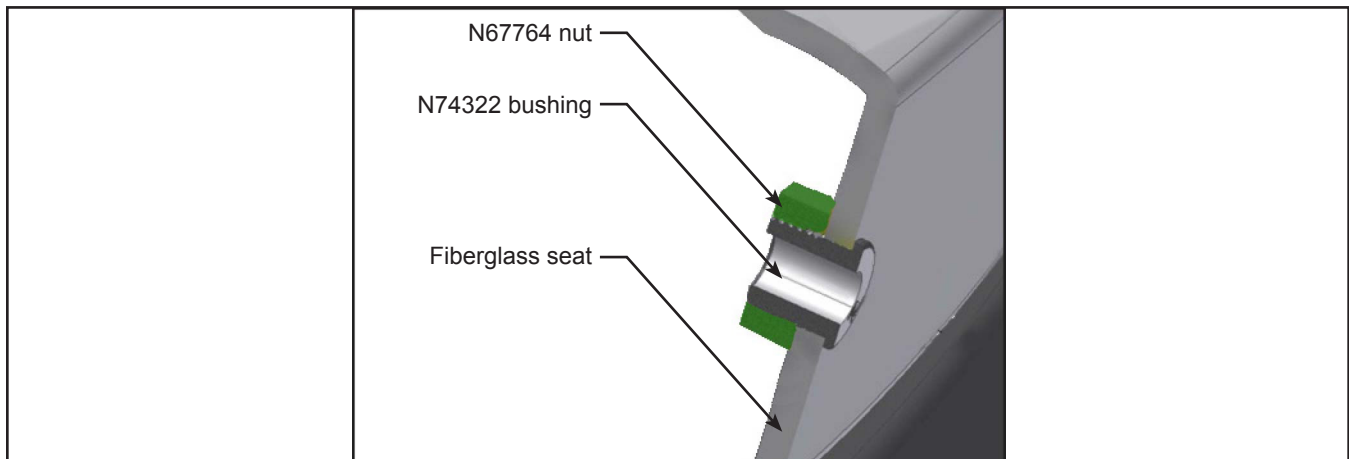

Figure 4 - Bushing assembly
- 1.9. Insert the N74322 bushing into the hole and secure it with a N67764 Nut. Apply medium Loctite, or equivalent, to the bushing threaded area before installing the nut. See Figure 4.